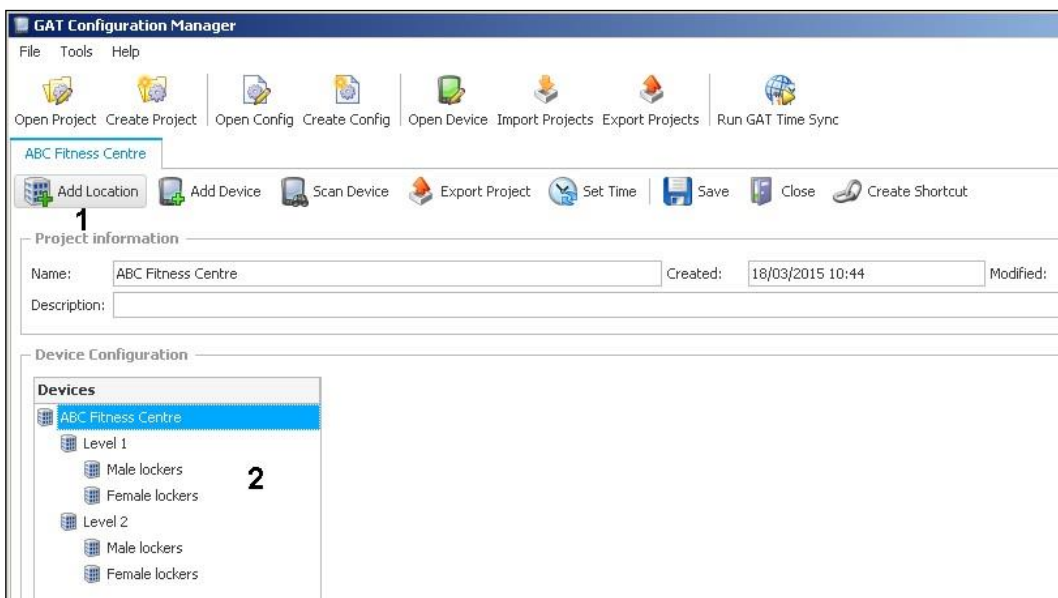

Figure 5.2 – GAT Config Manager – Add location
- ▶ Once a project is established, locations and sub-locations for the project can be added to the "Devices" directory (2 in Figure 5.2) by clicking on the "Add location" button (1 in Figure 5.2).